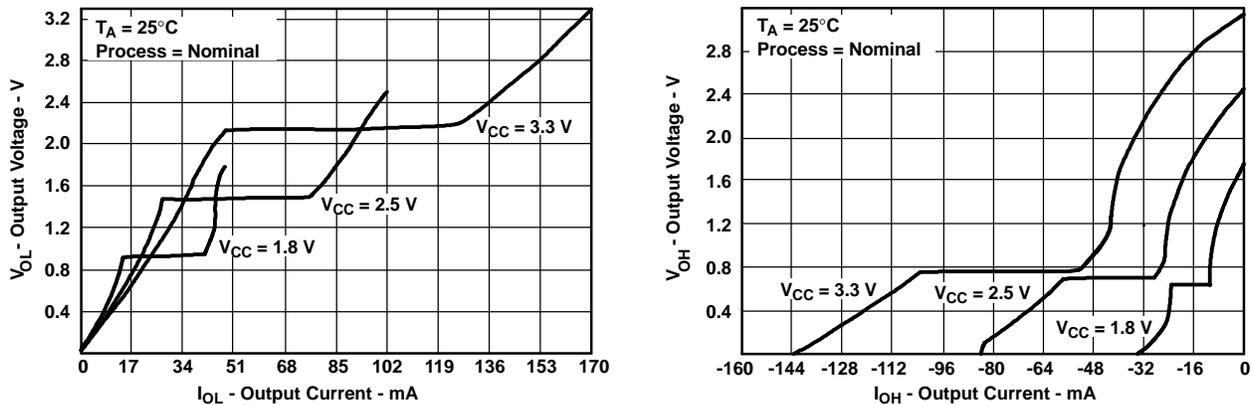

Figure 1. Output Voltage vs Output Current
A Dynamic Output Control (DOC™) circuit is implemented, which, during the transition, initially lowers the output impedance to effectively drive the load and, subsequently, raises the impedance to reduce noise. Figure 1 shows typical  $V_{OL}$  vs  $I_{OL}$  and  $V_{OH}$  vs  $I_{OH}$  curves to illustrate the output impedance and drive capability of the circuit. At the beginning of the signal transition, the DOC circuit provides a maximum dynamic drive that is equivalent to a high-drive standard-output device. For more information, refer to the TI application reports, *AVC Logic Family Technology and Applications*, literature number SCEA006, and *Dynamic Output Control (DOC™) Circuitry Technology and Applications*, literature number SCEA009.
- (1) Dynamic drive capability is equivalent to standard outputs with  $I_{OH}$  and  $I_{OL}$  of ±24 mA at 3.3-V  $V_{CC}$ . See Figure 1 for  $V_{OL}$  vs  $I_{OL}$  and  $V_{OH}$  vs  $I_{OH}$  characteristics. Refer to the TI application reports, *AVC Logic Family Technology and Applications*, literature number SCEA006, and *Dynamic Output Control (DOC™) Circuitry Technology and Applications*, literature number SCEA009.